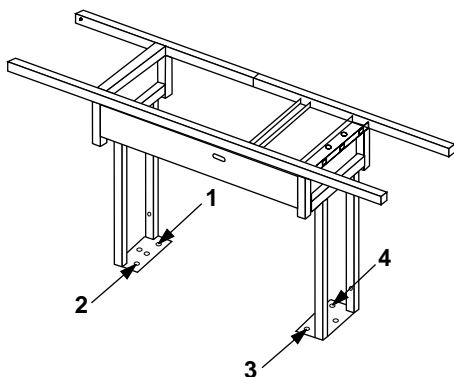

Figure 6
**⚠WARNING:** Whichever method used, the base must be bolted down (anchored) at a minimum of four anchoring points (two per side) prior to barbecue assembly. One anchor in each corner of the base plate. Figure 6.